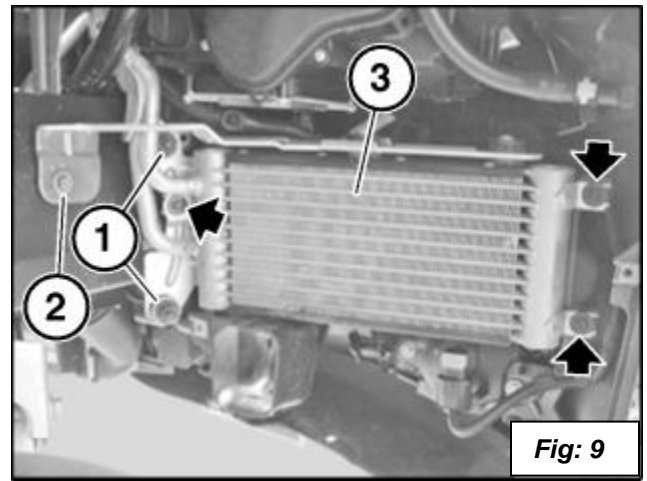

Fig: 9
13. Remove the three screws marked with arrows that hold the duct to the oil cooler (3). See figure 9.
14. Remove the bolt (1) and the nuts (2) and save for installing on the new oil cooler. You will also need the rubber mounts and top bracket and will remove them in step 20. See figure 9.